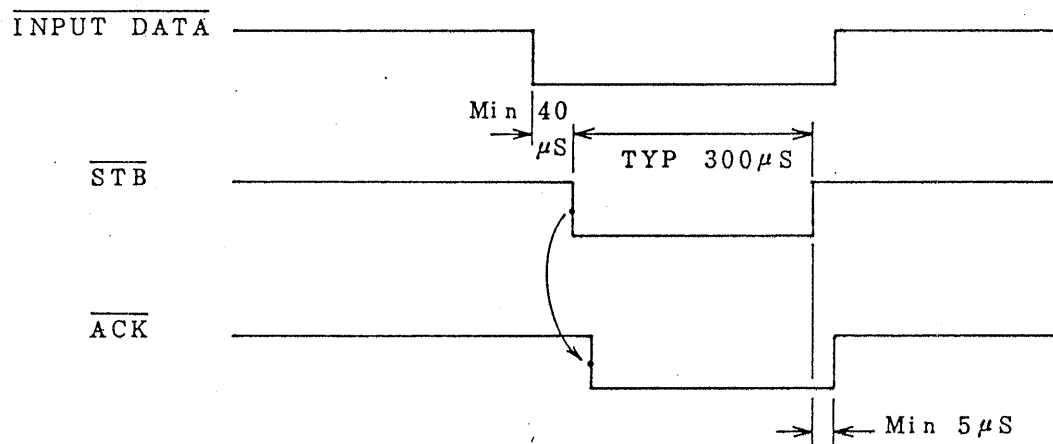

Figure 3-11
Input data and control signals can be added as shown in the timing chart in Fig. 3-11. Remember that the input signal utilizes current loop, while acknowledge utilizes open collector output.
* Timing for INPUT DATA, STB, and ACK are shown in Fig. 3-11.